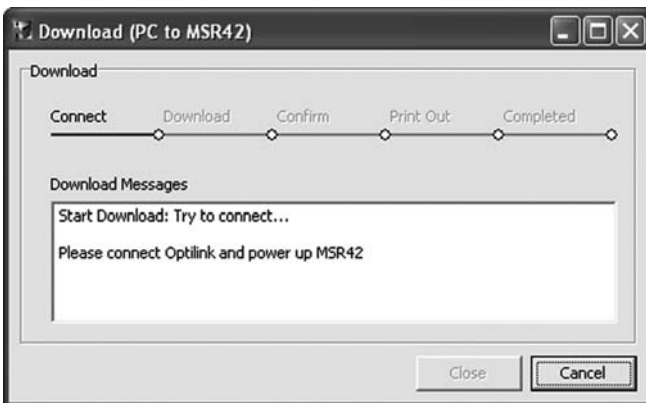

Figure 47: Communication PC to MSR42
8. A window will appear, which shows the process of the communication from the PC to the MSR42 control module (Figure 47).